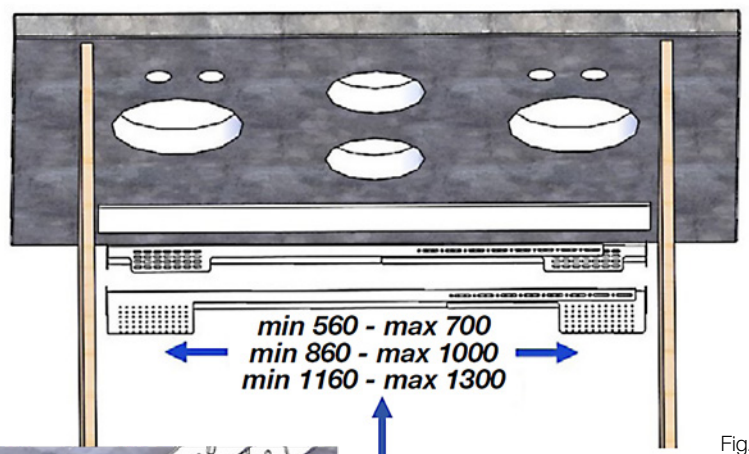

Fig.8
5. Measure the desired length these two sections need to be in correspondence with the internal cabinetry (Fig.8). *Note: Min 860mm – Max 1000mm for 880 units and Min 1160mm – Max 1300mm for 1180 units.*